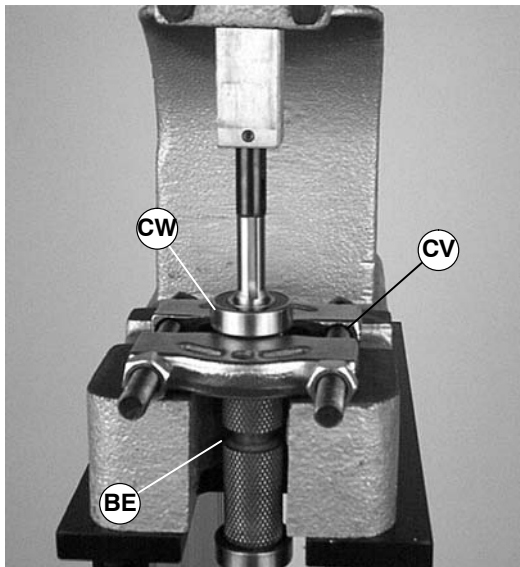

Figure 57
- Position drive pulley (BE of Figure 57) in a standard bearing separator (CV) as shown.